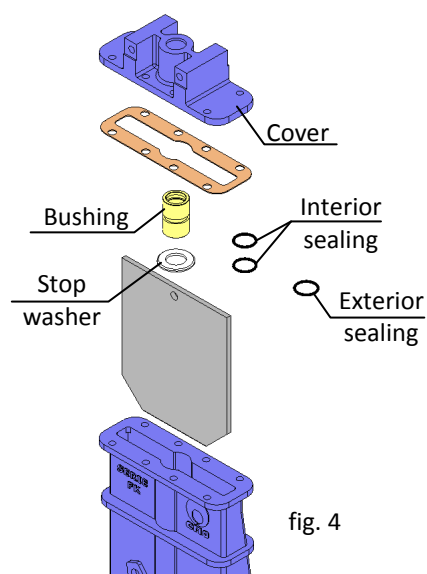

fig. 4
- **Bushing with sealing joints:** This type of seal (fig.4) achieves sealtightness by way of nylon bushing located between the body and the rod. This bushing is introduced inside the cover, until it comes up against the protrusion in the upper section, whilst a washer is located on the lower section; this becomes trapped when fastening the cover and the body, preventing the bushing from moving. This bushing has two interior O-rings to guarantee sealtightness between the rod and the bushing, and an exterior O-ring to guarantee the absence of leakages between the bushing and the body cover. This system is recommended for valves that operate with liquids.